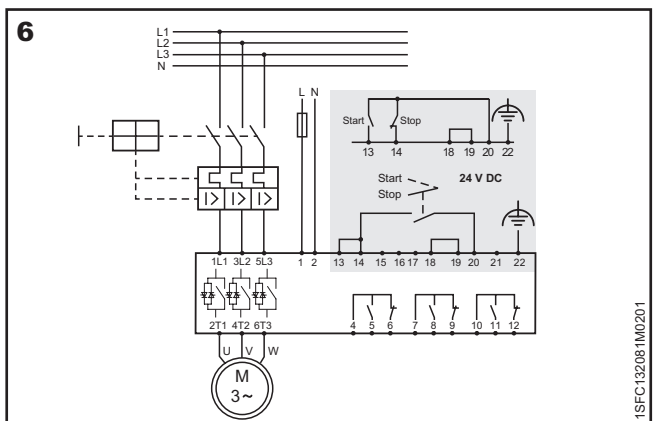

Figure 6: Circuit diagram PSTX30...PSTX370 (MCCB version)
7. Connect terminals 4, 5, 6, 7, 8, 9, 10, 11 and 12 to use the signal output relays. These are potential free contacts for maximum 250 V AC, 1.5 A AC-15 and 30 V DC, 5 A DC-12. See **Figure 6**.